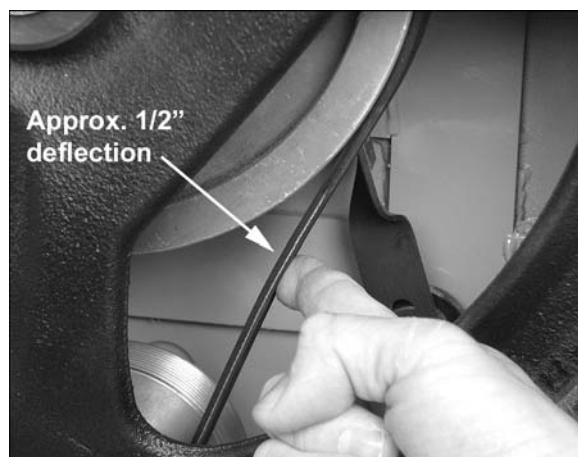

Figure 40
5. Loosen *motor lock handle* and allow motor to lower. The weight of the motor itself should produce the proper tension for the belt. Check the tension by pushing with moderate pressure against the center of the belt (Figure 40). An adequately tensioned belt will deflect about 1/2". If tension isn't strong enough, push down on the motor.
8. The weight of the motor itself should generally produce the proper tension for the belt. Check the tension by pushing with moderate pressure against the center of the belt (Figure 40). An adequately tensioned belt will deflect about 1/2". If tension isn't strong enough, push down on the motor.